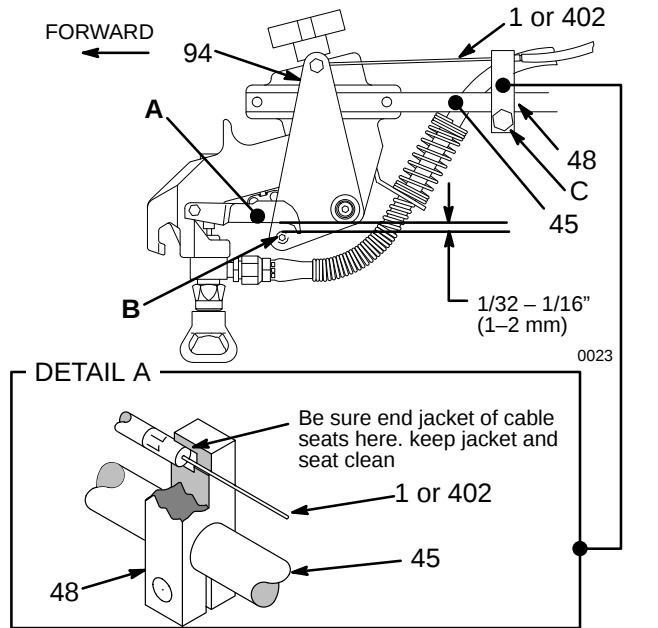

Fig. 21
To reduce the risk of an injection injury due to remotely triggering the gun by accident, always disengage the trigger cable from the block before handling the gun. See Fig. 21 DETAIL A. **The gun will trigger briefly when releasing the cable!** Before you remove the gun from the holder, engage the gun's trigger safety latch.
1. To disengage the cable, grasp the cable (1or 402) just behind the block (48). Pull the cable back about 1/2 inch (13 mm) and then up and out of the block. **The gun will trigger briefly!** See Fig. 21.
2. To engage the cable, slide the cable (1) into the block (48), making sure the end of the cable jacket seats firmly in the seat of the block. **The gun will trigger briefly!** See Fig. 21.
Trigger Cable Tension Adjustment See Fig. 21
Do not allow the cable (402) to rub against the outside edges of the slot (H) in the block (48), to prevent premature wear of the cable. Rotate the block slightly to eliminate rubbing. See Fig. 21 DETAIL A.